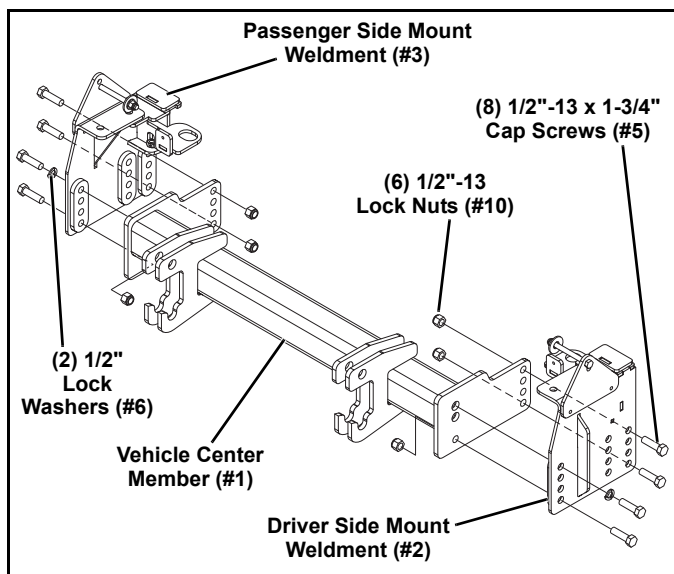

Figure 1-5
5. Attach the Vehicle Center Member (#1) to the Mount Weldments (#2 & 3) with (8) 1/2"-13 x 1-3/4" Cap Screws (#5), (2) 1/2" Lock Washers (#6), and (6) 1/2"-13 Lock Nuts (#10) (See Figure 1-5).